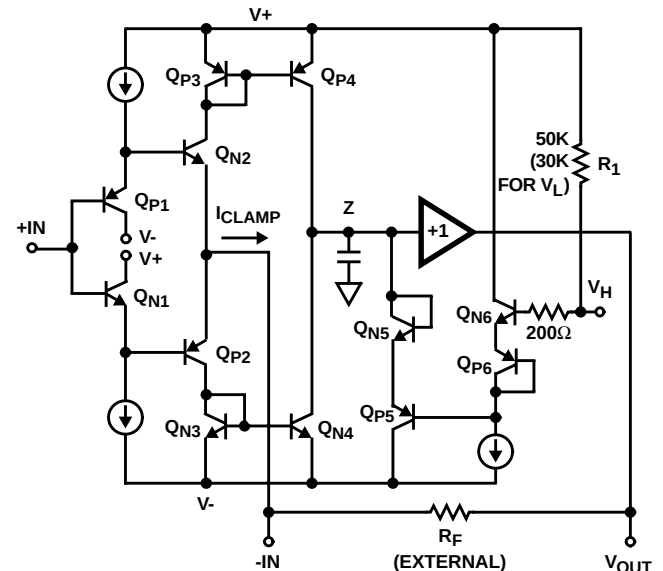

FIGURE 1. HFA1130 SIMPLIFIED V_H CLAMP CIRCUITRY
Figure 1 shows a simplified schematic of the HFA1130 input stage, and the high clamp (V_H) circuitry. As with all current feedback amplifiers, there is a unity gain buffer ($Q_{X1} - Q_{X2}$) between the positive and negative inputs. This buffer forces $-IN$ to track $+IN$, and sets up a slewing current of $(V_{-IN} - V_{OUT})/R_F$. This current is mirrored onto the high impedance node (Z) by $Q_{X3} - Q_{X4}$, where it is converted to a voltage and fed to the output via another unity gain buffer. If no clamping is utilized, the high impedance node may swing within the limits defined by Q_{P4} and Q_{N4} . Note that when the output reaches its quiescent value, the current flowing through $-IN$ is reduced to only that small current ($-I_{BIAS}$) required to keep the output at the final voltage.
The clamped output voltage will not be exactly equal to the voltage applied to V_H or V_L . Offset errors, mostly due to V_{BE} mismatches, necessitate a clamp accuracy parameter which is found in the device specifications. Clamp accuracy is a function of the clamping conditions. Referring again to Figure 1, it can be seen that one component of clamp accuracy is the V_{BE} mismatch between the Q_{X6} transistors, and the Q_{X5} transistors. If the transistors always ran at the same current level there would be no V_{BE} mismatch, and no contribution to the inaccuracy. The Q_{X6} transistors are biased at a constant current, but as described earlier, the current through Q_{X5} is equivalent to I_{CLAMP} . V_{BE} increases as I_{CLAMP} increases, causing the clamped output voltage to increase as well.